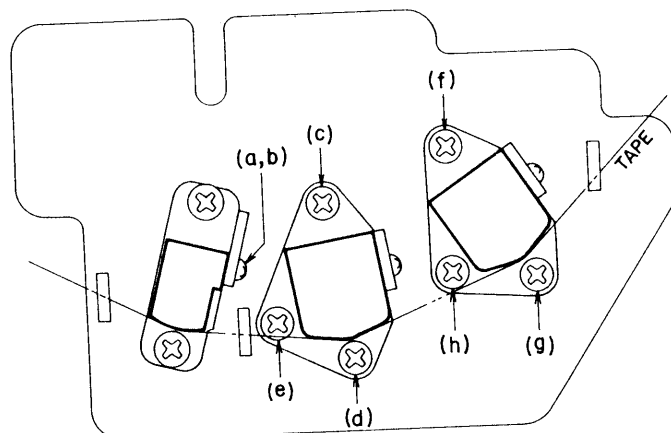

Fig. 10
1. HEAD HEIGHT ADJUSTMENTS (See Figs. 10, 11)
2. HEAD SLANT ADJUSTMENT (See Figs. 10, 11)
3. HEAD AZIMUTH ALIGNMENT ADJUSTMENTS (See Figs. 10, 11)